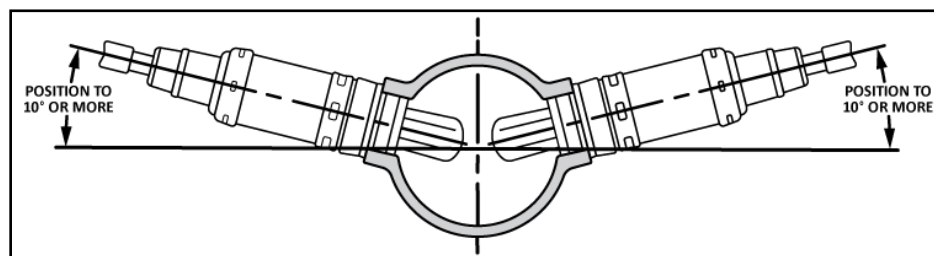

Figure 1
3. Ensure the location for the sensor is at the angle in **Figure 1**. This will help prevent condensation in the exhaust tubing from entering the sensor. The sensor can be mounted on either side of the tubing.